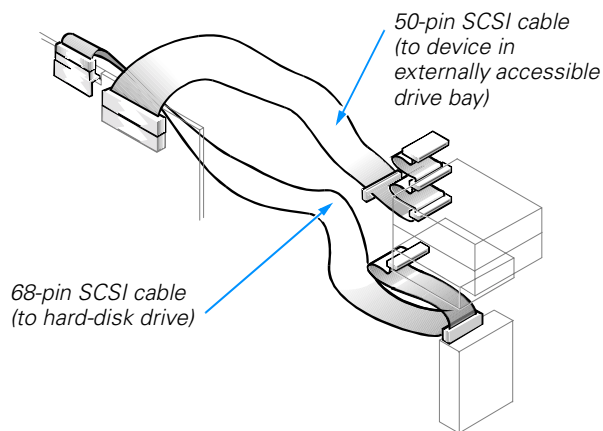

Figure 3-14. Internal SCSI Cables
- If you are installing an internal narrow SCSI device (such as a CD-ROM drive, a Zip drive, or tape drive), you have a 50-pin internal SCSI cable as shown in Figure 3-14. One end of this cable attaches to the SCSI host adapter card. The three connectors on the other end of the cable are used for attaching up to three narrow SCSI devices installed in the externally accessible drive bays.
- If you are installing an internal wide SCSI device (such as a wide SCSI hard-disk drive), you have a 68-pin internal SCSI cable as shown in Figure 3-14. One end of this cable attaches to the SCSI host adapter card and the two connectors on the other end of the cable are used for attaching up to two SCSI hard-disk drives.